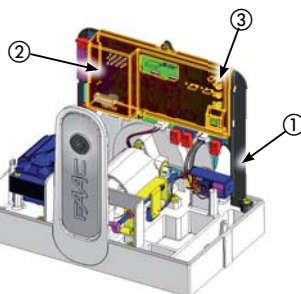

Fig. 18
The electronic control equipment in the gearmotors is fastened to a mount (Fig. 18 re. ①) with a clear cover (Fig. 18 re. ②). The board programming buttons are positioned on the cover (Fig. 18 re. ③) and this makes it possible to programme the board without having to remove the cover.